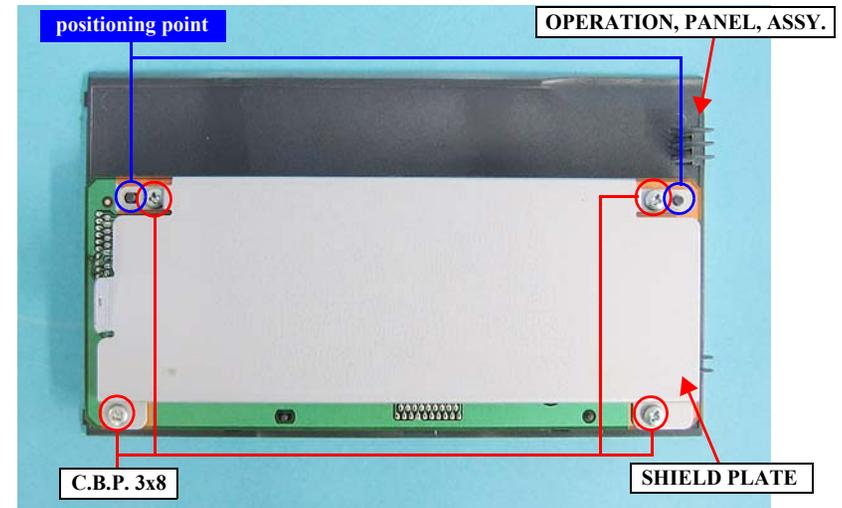

Figure 4-21. Removing the SHIELD PLATE
2. Remove the four screws that secure the SHIELD PLATE to the backside of the OPERATION, PANEL, ASSY. See Figure 4-21.
- When installing the SHIELD PLATE, be sure to insert its two positioning holes over the guide pins on the OPERATION BUTTON. See Figure 4-21.